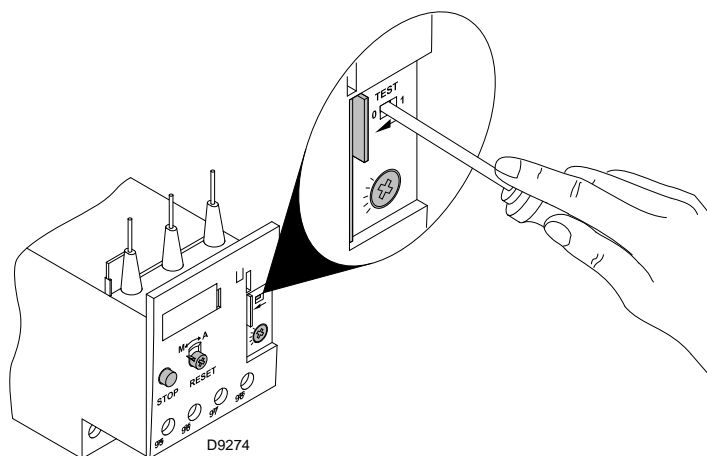

Fig. 32
- To test the thermal relay, insert a screwdriver in the window “TEST” (Fig. 32) and move it in the sense of the arrow (towards right).